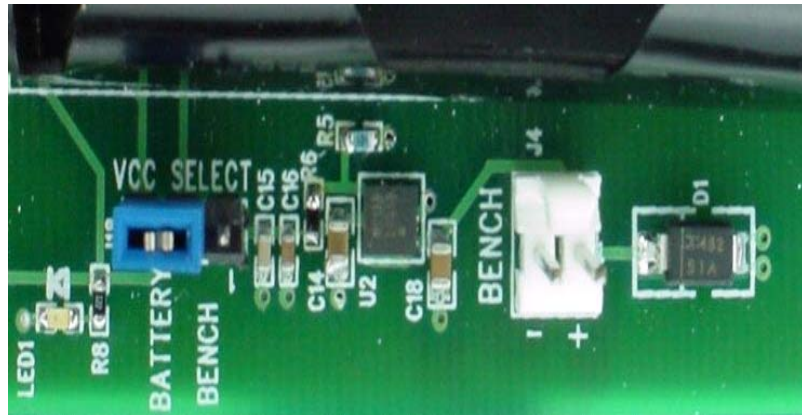

Figure 3-2. Jumper Set for Battery Supply
Insert batteries into interface boards and verify that battery supply is selected using the jumper as shown in Figure 3-2 chapter 3.
- To use battery supply place the jumper as shown in Figure 3-2 below and insert 2 AA batteries in power pack onboard the interface board.